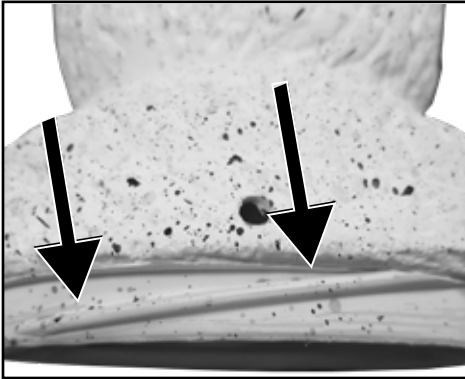
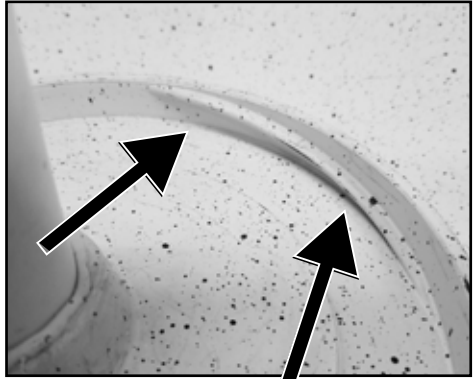

Figure 1
Figure 2
Step 3: As shown in previous sections there are also threads in the bottom of the fountain tier (Figure 1) and middle of the large bowl (Figure 2) which will lock the fountain tier to the middle of the large bowl (Black arrows).